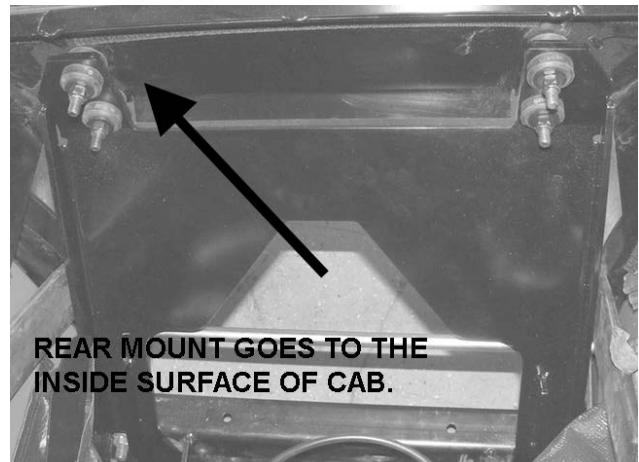

FIGURE 9
14. Lower the cab onto the tractor and align the front mount holes of the cab tubes with the holes on the front mount brackets installed in step 7. The rear mount may need to be tilted forward as you lower the cab to allow it to pass to the inside of the rear cab wall. **Figure 9**